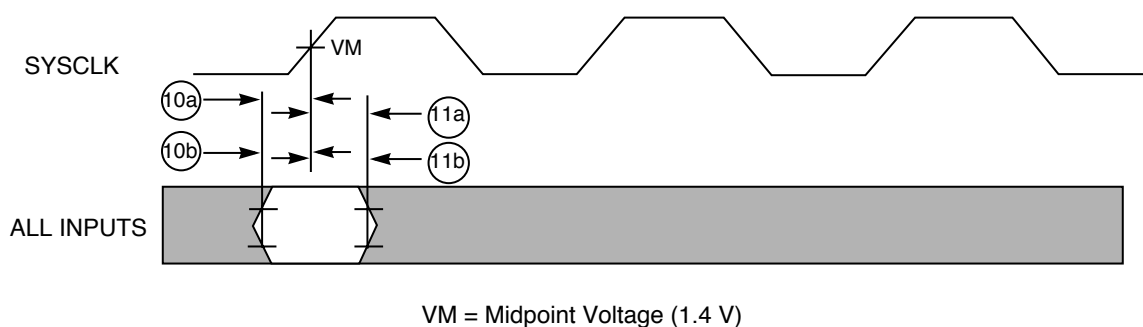
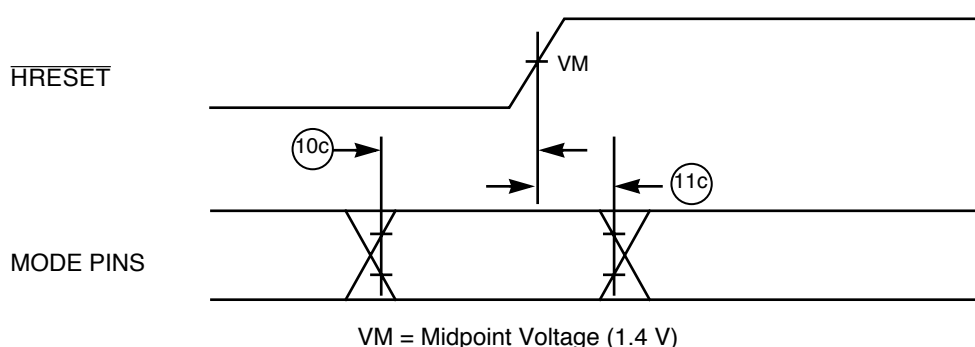

Figure 2. Input Timing Diagram
Figure 3. Mode Select Input Timing Diagram
Table 7 provides the input AC timing specifications for the PID7t-603e as defined in Figure 2 and Figure 3.
4. The setup and hold time is with respect to the rising edge of $\overline{\text{HRESET}}$ (see Figure 3).
Figure 2 provides the input timing diagram for the PID7t-603e.
Figure 3 provides the mode select input timing diagram for the PID7t-603e.